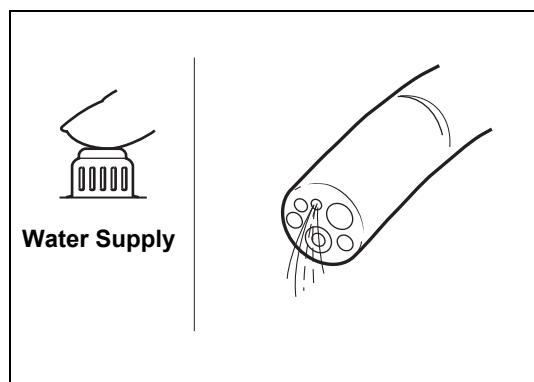

Figure 4.6
- Fully press the air/water feeding valve and check that water comes out of the distal end of the endoscope. (Refer to Figure 4.6.)